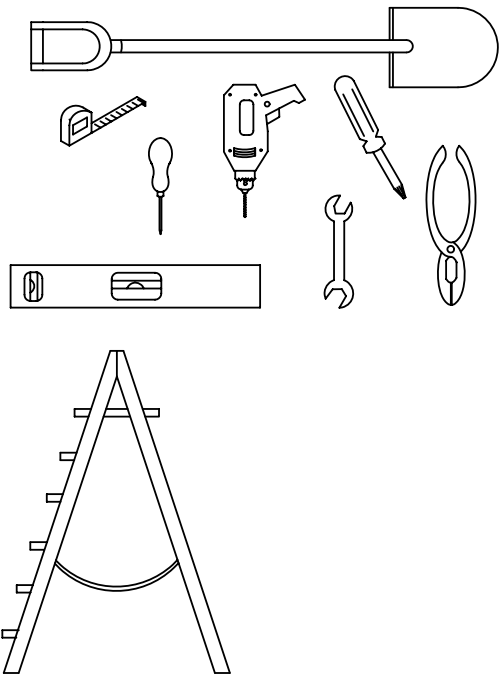

FIG. 1
1. WEATHER WARNING ! DO NOT ERECT YOUR BUILDING ON A WINDY DAY. ANY BUILDING LEFT PARTIALLY CONSTRUCTED MAY BE SERIOUSLY DAMAGED (FIG.1).
2. ALL ASSEMBLY OPERATIONS MUST TAKE PLACE ON A COMPLETELY LEVEL SURFACE (FIG. 1)
1. TEMPÊTE DE VENT: NE JAMAIS MONTER VOTRE ABRI PAR GRAND VENT. NE PAS LAISSER UN ABRI PARTIELLEMENT MONTÉ, LES PIÈCES POUVANT ÊTRE ENDOMMAGÉES (FIG. 1).
2. TOUTES LES OPÉRATIONS DE MONTAGE DOIVENT ÊTRE RÉALISÉES SUR UNE SURFACE PLANE (fig 1).
MONTADO PODE FICAR SERIAMENTE DANIFICADO (FIG. 1).
2. TODAS AS OPERAÇÕES DE MONTAGEM DEVEM SER EFECTUADAS NUMA SUPERFÍCIE COMPLETAMENTE NIVELADA (FIG. 1).
1. PRESTE ATENCIÓN A LA METEOROLOGÍA. NO INTENTE LEVANTAR EL EDIFICIO EN UN DÍA DE VIENTO. CUALQUIER COMPONENTE QUE QUEDE A MEDIO MONTAR PUEDE SUFRIR DAÑOS IMPORTANTES. (FIG. 1).
2. TODAS LAS OPERACIONES DE MONTAJE DEBEN DE REALIZARSE SOBRE UNA SUPERFICIE TOTALMENTE PLANA Y AL MISMO NIVEL. (FIG. 1)